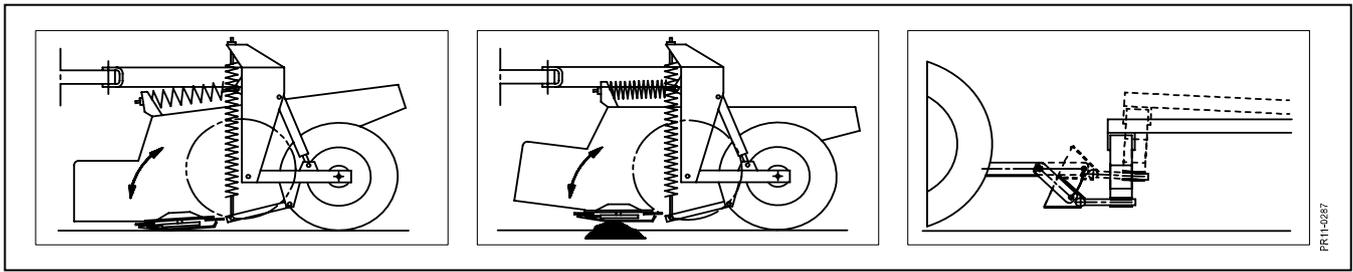

Fig. 3-1
**Fig. 3-1** The machine is equipped with the Top Safe safety system. The machine frame (conditioner frame) with cutter bar is floating suspended in two strong springs for vertical movements and two horizontal springs, which provide the cutter bar with an easy swivelling movement when meeting stones or the like. Simultaneously the drawbar is extended and the machine is hereby lifted. This reduces the impact significantly.